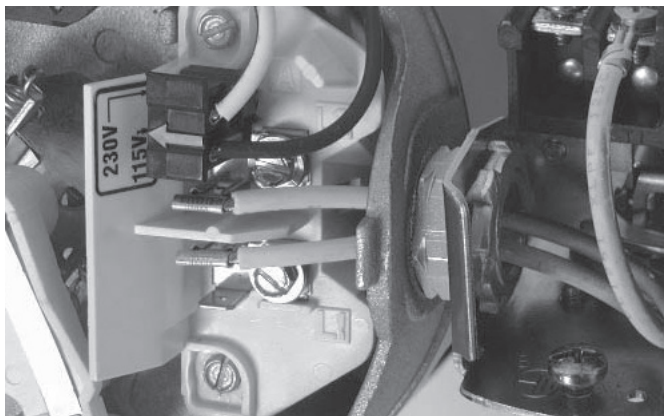

Figure 8: Voltage set to 115 volts, Plug Type
3. Move the voltage change plug to the 115 volt position. The plug will now cover 2 metal tabs and the arrow on the plug will line up with the 115V arrow on the label (see Figure 8).